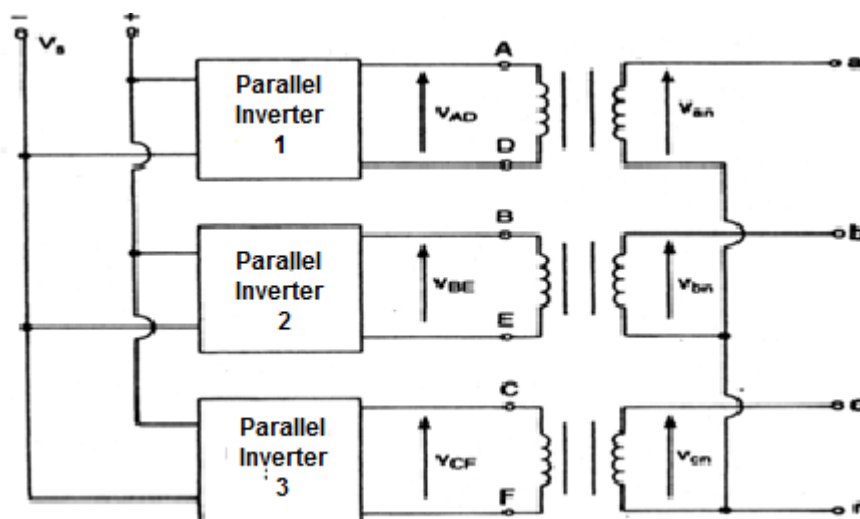

Fig. 15.1 Schematic diagram of a three-phase inverter constructed from three single-phase parallel inverters.
15.1 Three-phase inverters are normally used for high-power applications. Three single-phase parallel, inverters can be connected in parallel as shown in Fig.15.1 to form the configuration of a three-phase inverter.